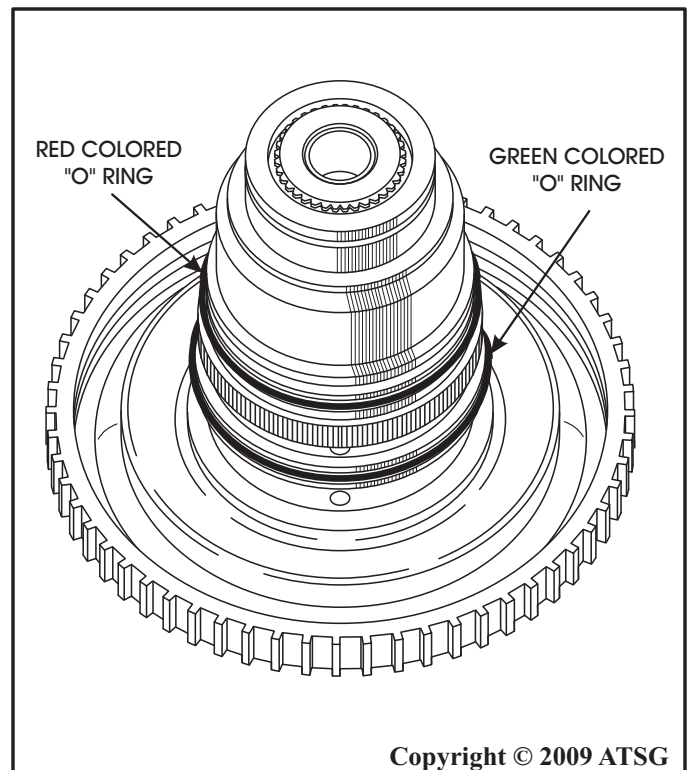

Figure 73
9. The "O" rings on the input clutch hub are color coded. Install Green and Red colored "O" rings in the positions shown in Figure 73, and lube with a small amount of TransJel®.